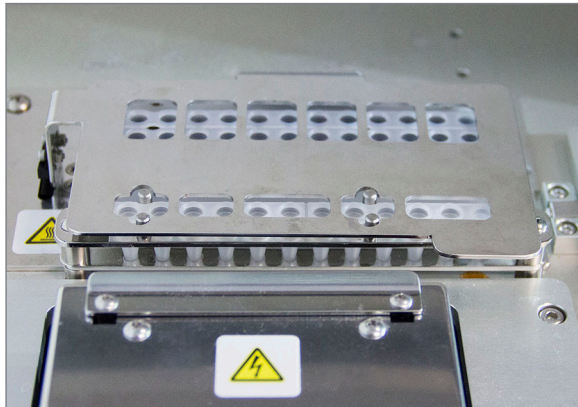

FIGURE 5.23: Lid closed over tubes
a. Securely close the lid that flips down over the tubes (**FIGURE 5.23**).